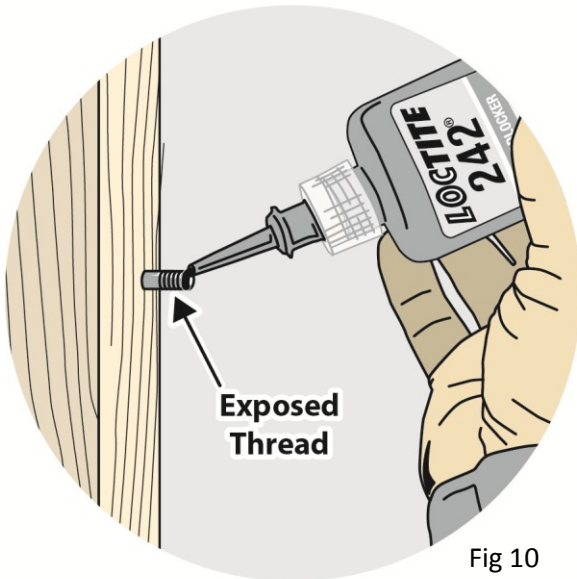
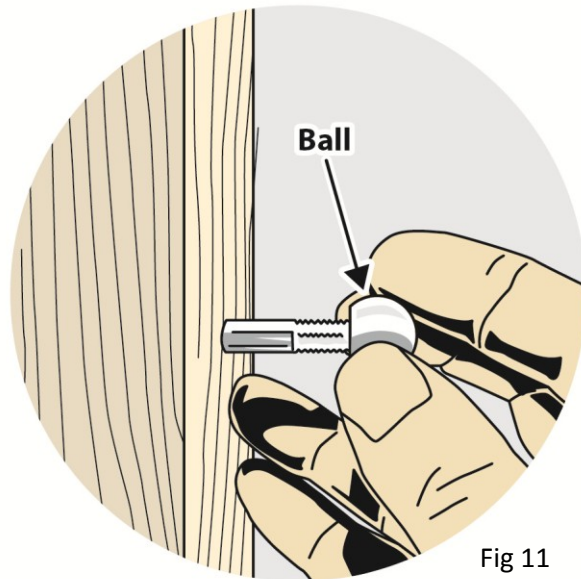

Fig 10
Fig 11
- a) Insert Classic Ball Turnbuckle/Swage Ball End Shaft through the 3/8" drilled hole on Post 1. Apply Loctite™ to the threads (Fig. 10) and screw on the ball which will rest on the outside face of the post (Fig. 11).